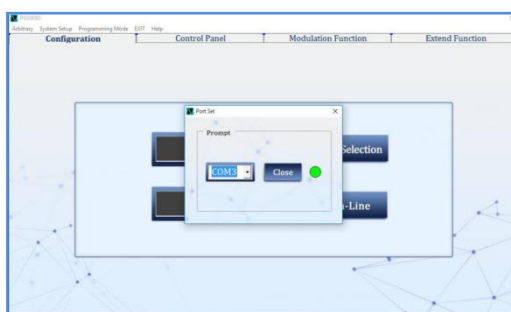

Figure 3-9-12
- Step 2: After selecting the corresponding serial port, open the serial port, and then connect. The connecting interface is shown as Figure 3-9-12.